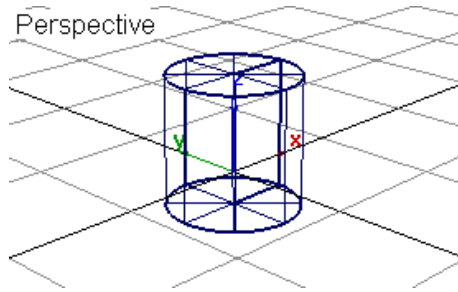

Figure 2-101 Cylinder created for the base of the model
2. Enter **0, 0, 25** in the promptline and press ENTER; the cylinder is created, as shown in Figure 2-101.